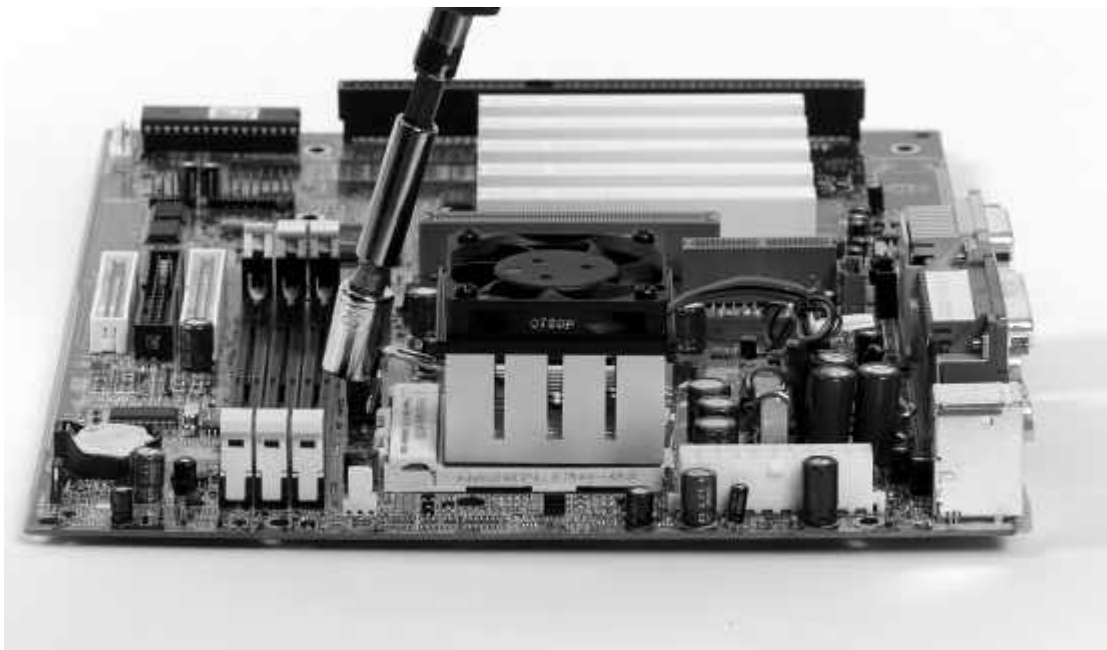

Figure 18. Installing the Clip with a Nutdriver
18. Figure 18 shows one of the installation steps using a nutdriver instead of the screwdriver. All the steps and operations are identical except for the choice of tool used. *Always install the processor before installing the memory modules.*